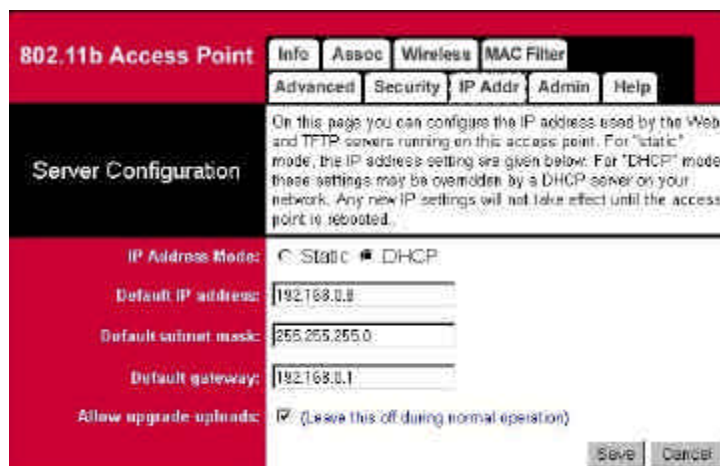

Figure 4.4 Server Configuration Screen
11. Click the IP Addr tab. The Server Configuration screen appears (Figure 4.4).